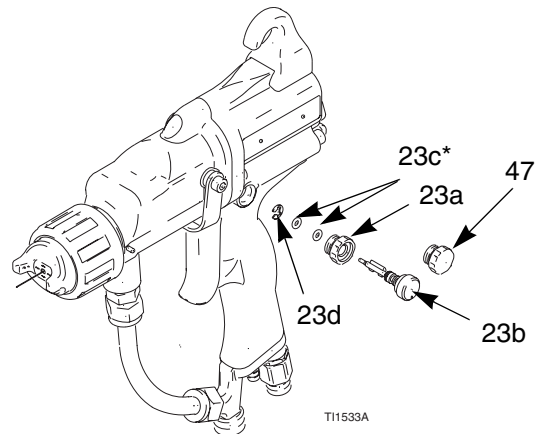

Fig. 19. Atomizing Air Valve
2. Remove the atomizing air restrictor valve (23). Inspect the o-ring (23c*). Replace if necessary. See FIG. 19.
3. Install a new atomizing air restrictor valve (23), or disassemble and replace parts individually. The valve protrusion must be oriented to clear the air valve (21) shaft.